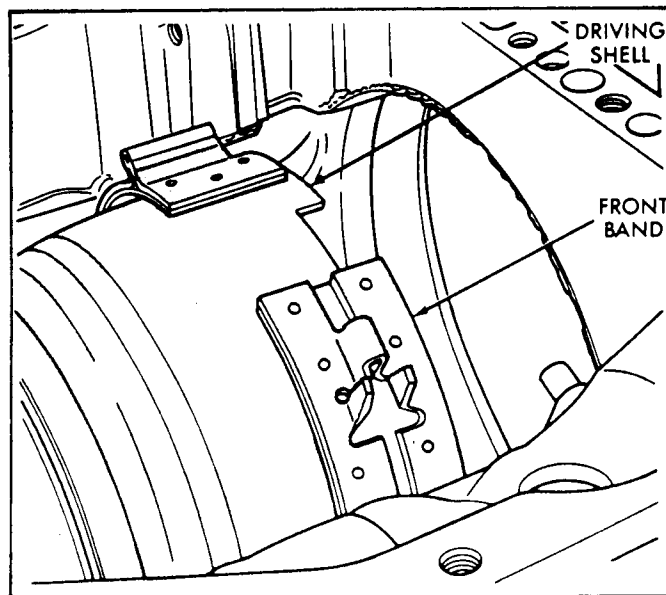

Figure 22
34. Slide the front band off of the driving shell (See Figure 22), and remove from the case.